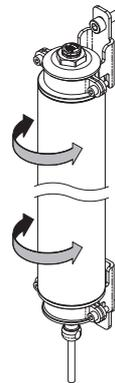

Fig. 4
- Power the emitter and receiver on to perform beam alignment (Fig. 4). For more information on the beam alignment procedure, refer to 5-3-5. *Beam Alignment Procedure*.